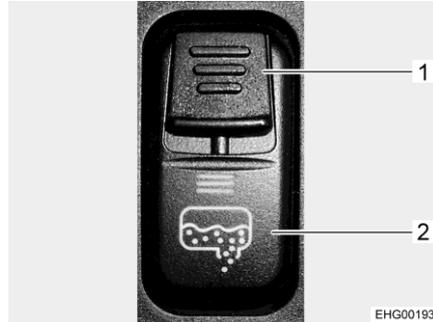

Fig. 204 Rocker switch (waste water drainage)
- Push the safety slide button (Fig. 204,1) on the rocker switch downwards and, at the same time, press the lower part of the rocker switch (Fig. 204,2). Doing this, the waste water valve is opened and the waste water tank is emptied. The LED is lit as long as the waste water valve is open.